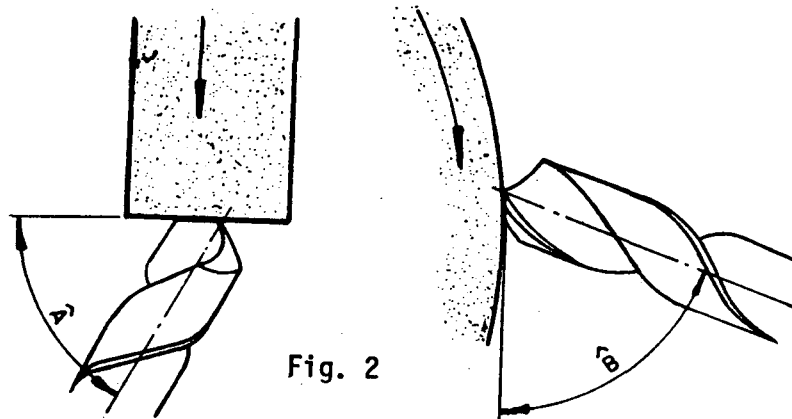

Fig. 2
- a) Rest the drill on the grinding wheel at a suitable angle (Fig. 2).